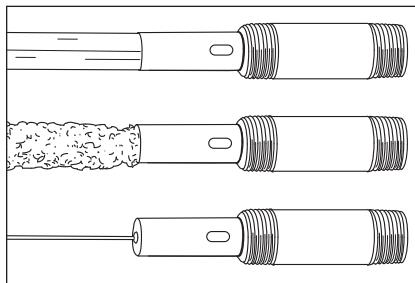

Figure 50 - Combination heat trap nipple/anode rods from new (top) to partially depleted (middle) to fully depleted stage (bottom).
**NOTICE:** If equipped, the combination heat trap nipple/anode rod (see Figure 50) will be located at the hot water outlet side of the unit. Use a pipe wrench at the nipple to remove and replace the combination heat trap/nipple anode rod. When removing or replacing the anode rod, use caution and **DO NOT** damage the nipple threads. If you can not perform this task yourself, contact a qualified person.